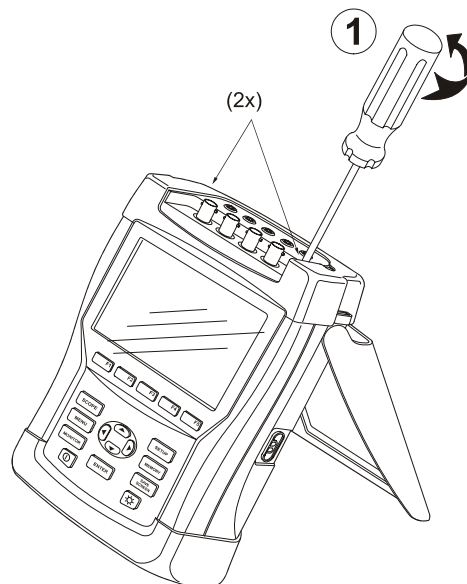

Figure 6-2. Loosen 2 Input Cover Screws
1. Loosen the two M3 Torx screws that secure the input cover (Figure 6-2).